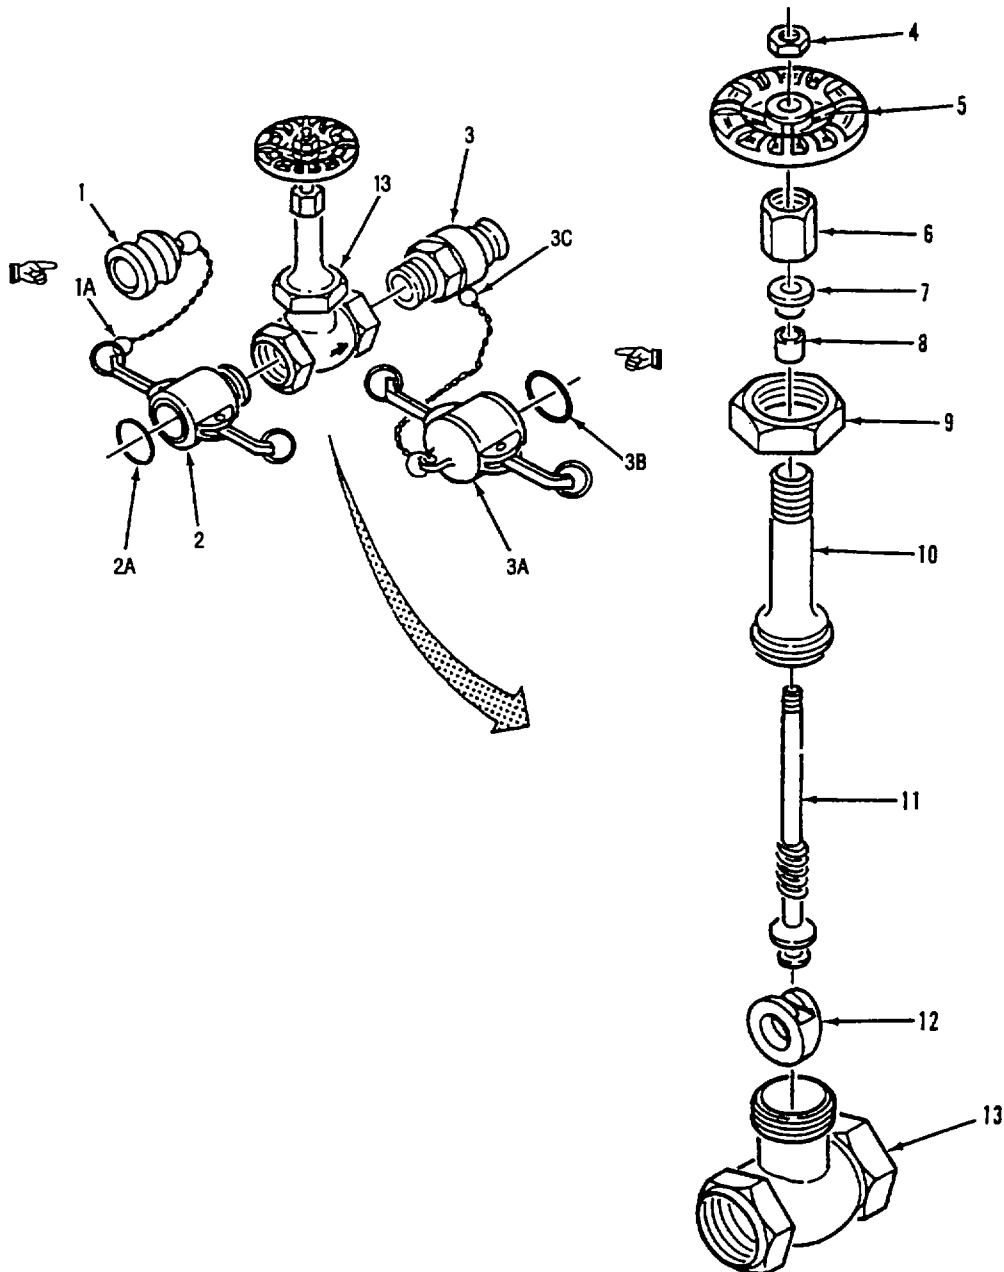

Figure 4-7. Gate Valve Assembly (2-Inch) Repair
a. Disassembly. Refer to Figure 4-7.
- (1) Clamp gate valve body (13) in vise.
- (2) Remove plug (1) from female coupling (2).
- (3) Disconnect ring (1A) from female coupling (2).
- (4) Remove gasket (2A) from female coupling (2).
- (5) Using pipe wrench, unscrew female coupling (2) from valve body (13).
- (6) Using pipe wrench, unscrew male coupling (3) from valve body (13).
- (7) Remove cap (3A) from male coupling (3) and remove gasket (3B) from male coupling (3).
- (8) Disconnect ring (3C) from male coupling (3).
- (9) Turn handwheel (5) fully clockwise to close valve.
- (10) Remove handwheel nut (4) and handwheel (5) from stem (11).
- (1) Inspect valve body (13) for cracks and stripped or damaged threads.
- (2) Inspect disc (12) for cuts or scratches across sealing surfaces.
- (3) Inspect bonnet (10) for cracks and stripped threads.
- (4) Inspect stem (11) for stripped, galled or damaged threads.
- (5) Inspect female coupling (2) for cracks, broken lock arms and damaged threads.
- (6) Inspect male coupling (3) for cracks and damaged threads.
d. Repair. Replace all defective parts. Do not reuse packing (8) or gasket (1). If disc (12) or valve body (13) is damaged, replace entire valve.
e. Assembly. Refer to Figure 4-7.
- (1) Screw stem (11) into bottom of bonnet (10).
- (2) Install new packing (8) and packing gland (7) over stem (11) and into bonnet (10).
- (3) Screw packing nut (6) onto bonnet (10) only finger tight.
- (4) Slide disc (12) onto end of stem (11).
- (5) Lower bonnet (10) and attached parts onto valve body (13). Make sure disc (12) fits in valve body seat
- (6) Install bonnet ring (9) on valve body (13). Tighten packing nut (6).
- (7) Install handwheel (5) and handwheel nut (4) on stem (11).